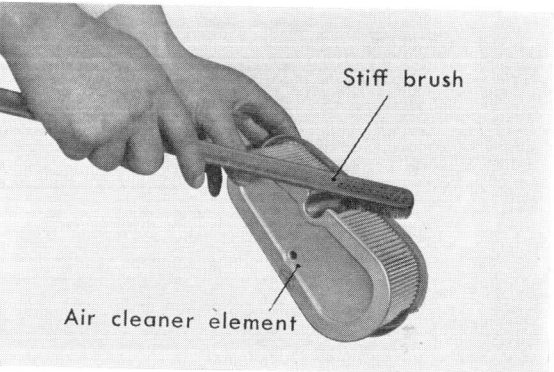

Figure 6-22. Cleaning air cleaner element
- c. Tap the cleaner lightly to remove the dust and then blow dry compressed air from the inside or use a brush. (Fig. 6-22)
- (1) The air cleaner is made of paper and if torn or damaged, replace with a new element.
- (2) Oil or water on the cleaner element will render it ineffective and will cause dust to enter the engine cylinder, resulting in increased cylinder wear.